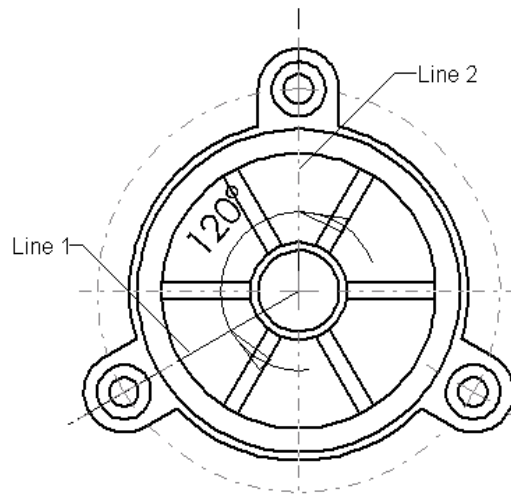

Figure 12-53 Sketch to be used as section sketch for the aligned section view
2. Using the **Line** tool draw the sketch and apply the relations and dimensions to the sketch as shown in Figure 12-53.